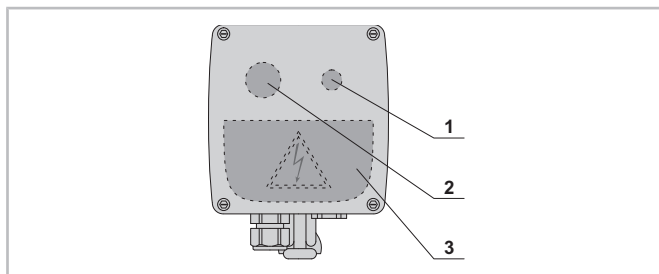

Fig. 4: Oil heater for OA4188(A)-EX..OA25112(A)-EX, the dark-grey parts are located underneath the cover
- Press the button (see figure 4, page 17, position 1).
- Adjust the setpoint at the set knob to 60°C (or at least to a value 20 K above the maximum ambient temperature). see figure 4, page 17, position 2.